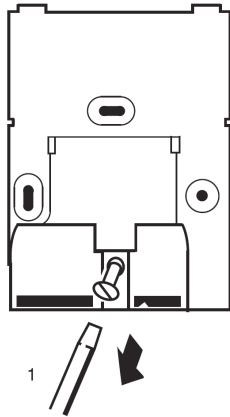

Fig.3
- Separate base, remove bottom centre screw from base and remove cover to expose electrical connections **Fig.3 (1)** and **Fig.4**